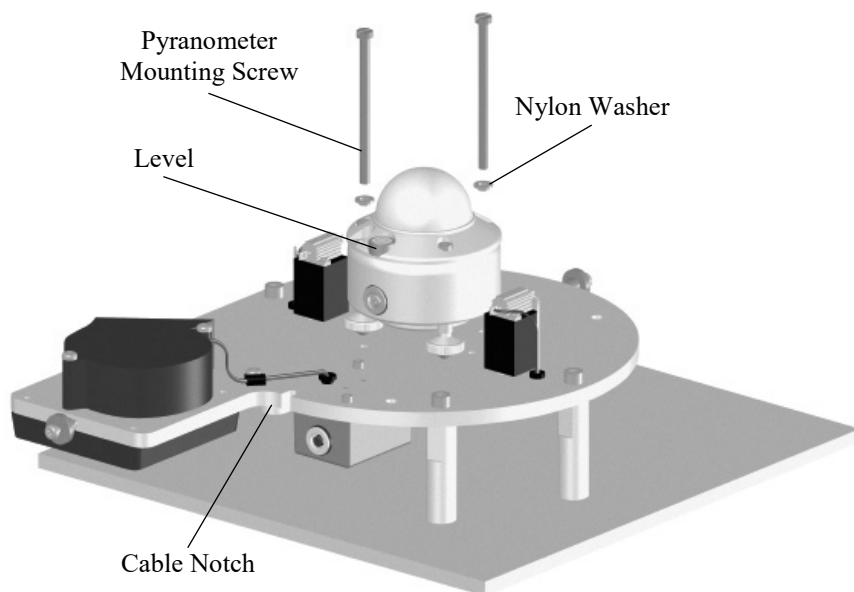

FIGURE C-7. Mounting the pyranometer to the CVF4
5. Loosely mount the pyranometer on the CVF4 by using the mounting screws and washers. Do not fully tighten the pyranometer two mounting screws (FIGURE C-7).